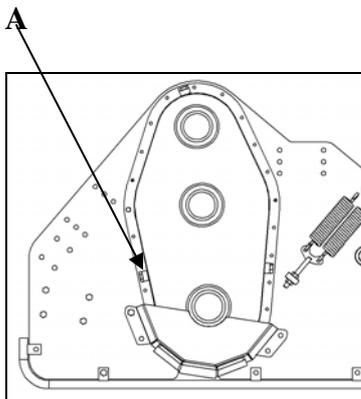

Fig. 5
1. The gearcase filled to the level plugs (fig. 5 A) - 7 l.